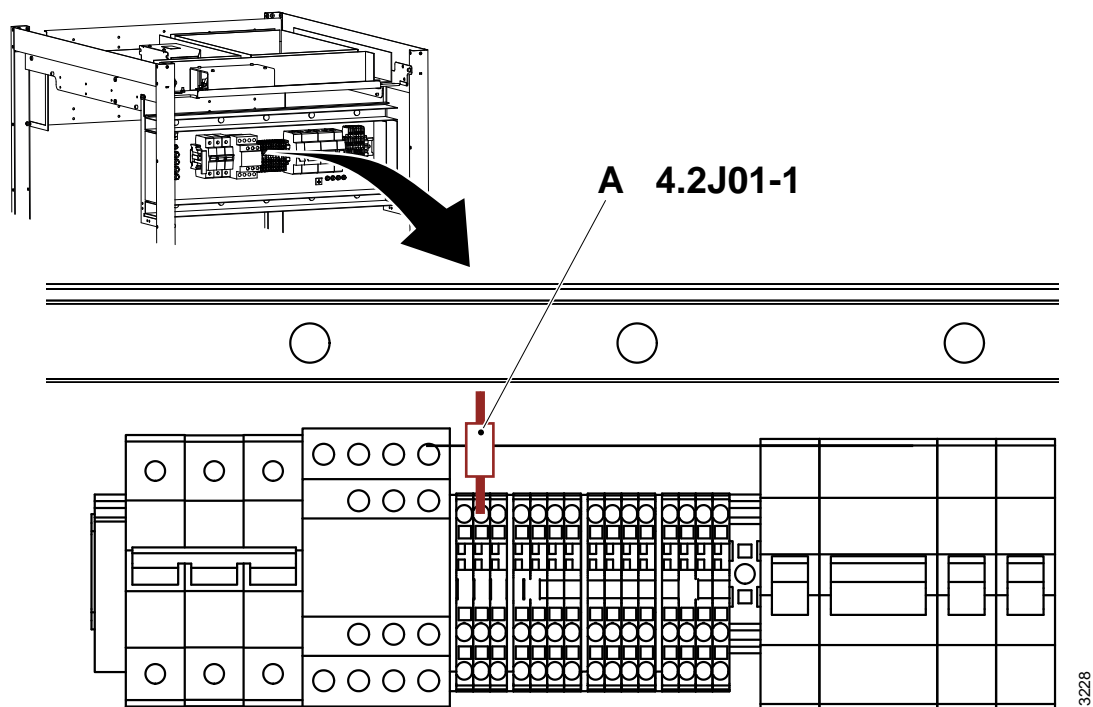

Fig. 4-73
Make sure the wire (A) is connected according to Fig. 4-73 .